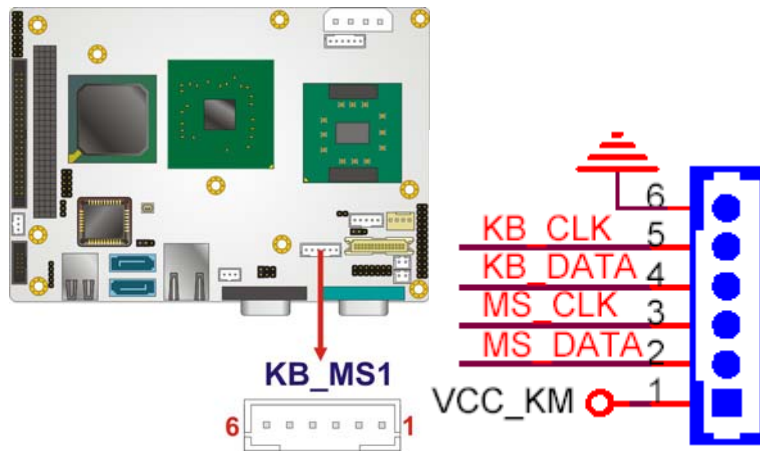

Figure 4-11: Keyboard and Mouse Connector Location
- CN Location:** See **Figure 4-11**